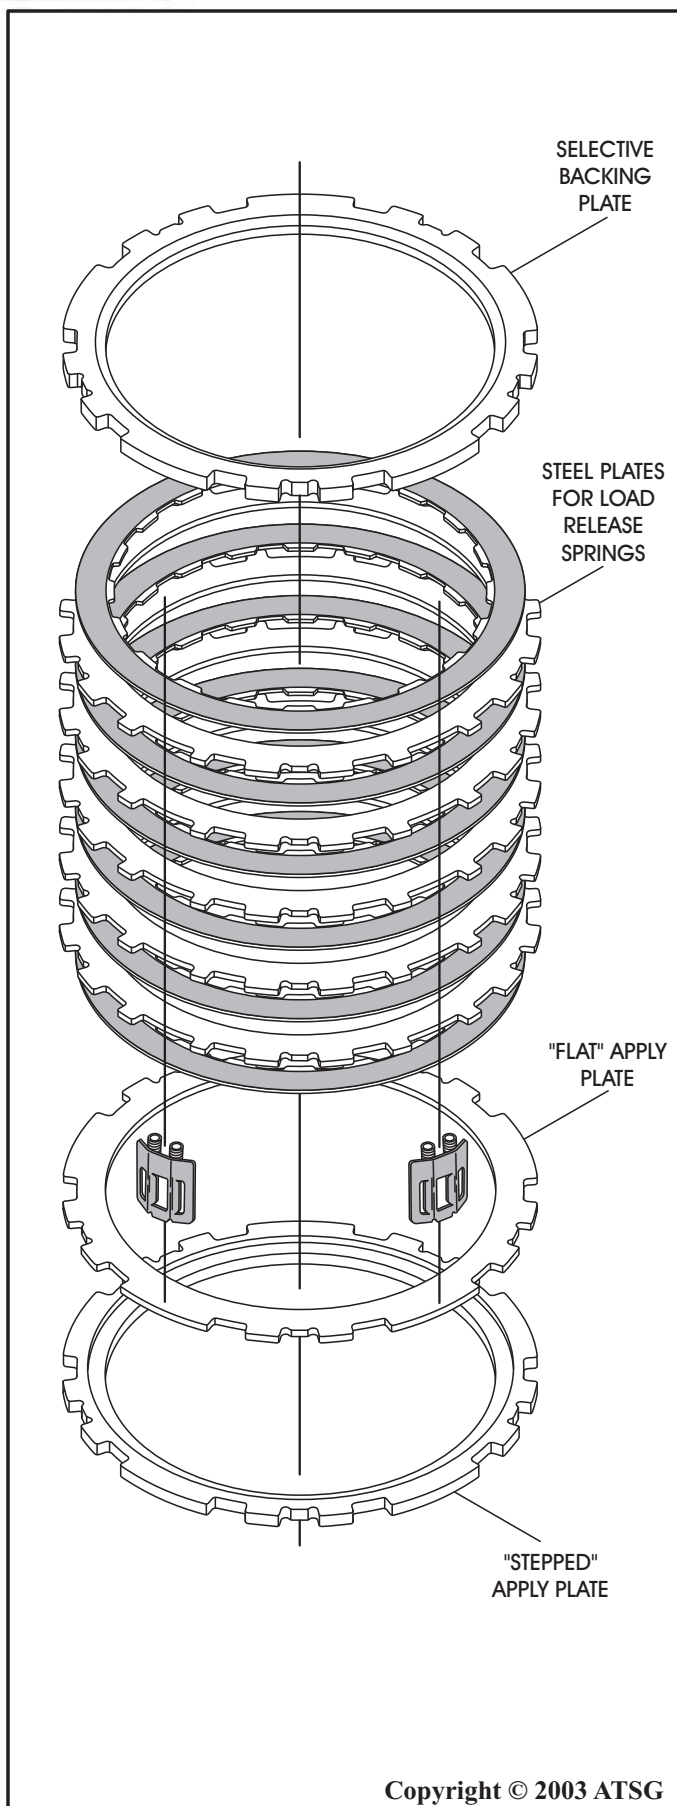

Figure 56
- (2) **3-4 CLUTCH STEEL PLATES** - The wide tabs on the 3-4 clutch steel plates were modified to make room for the added load release springs, as shown in Figure 56. However, there is still "One" flat steel plate with the wide tabs required, and is called the flat apply plate. The flat apply plate goes on top of the "Stepped" apply plate, as shown in Figure 56.